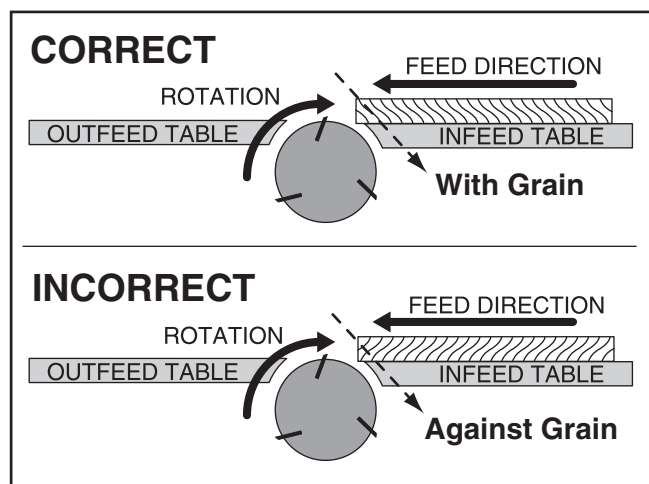

Figure 29. Illustration showing correct and incorrect grain alignment with cutterhead.
- **Jointing and surface planing WITH the grain produces a better finish and is safer for the operator.** Cutting with the grain is described as feeding the stock on the jointer so the grain points down and toward you as viewed on the edge of the stock (**Figure 29**).